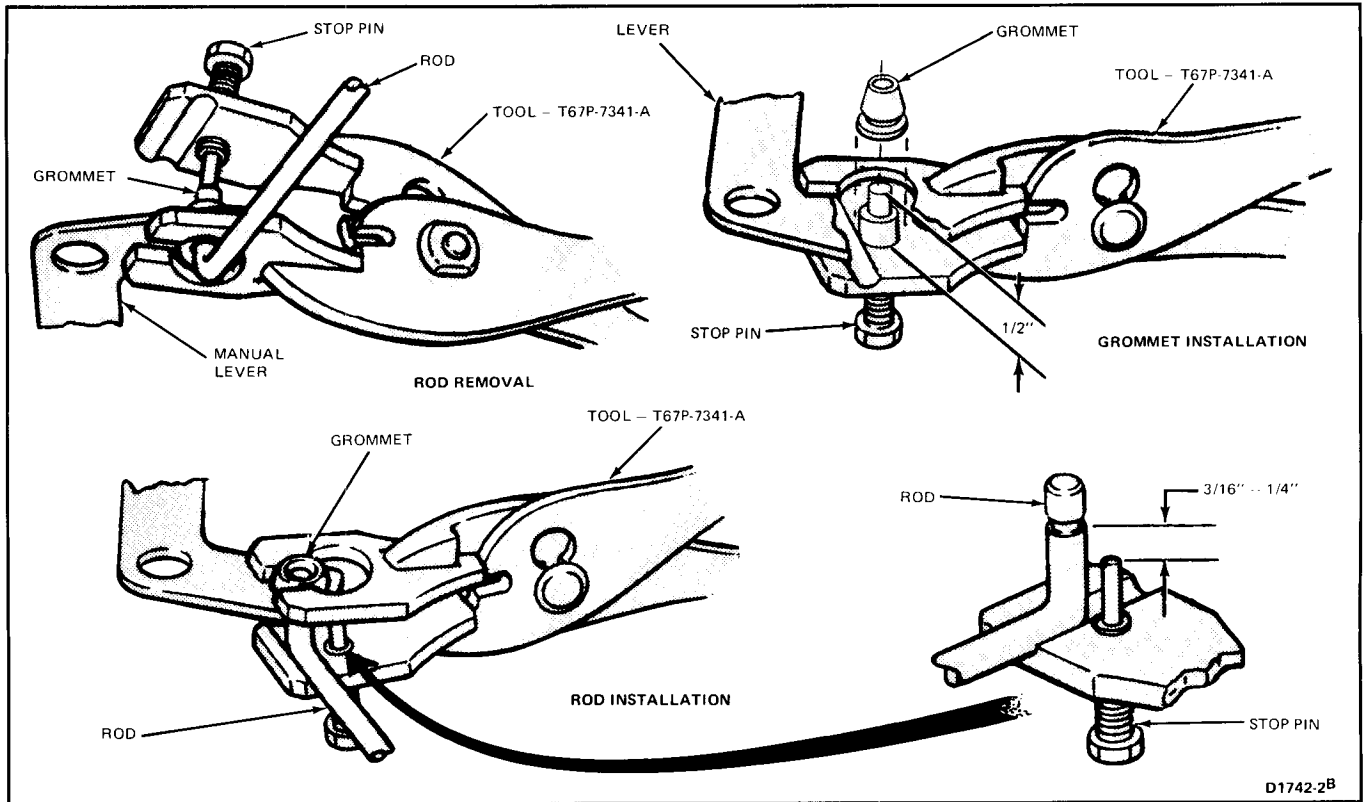

FIG. 2 Linkage Grommet—Removal and Installation
1. Place the lower jaw of Tool T67P-7341-A or equivalent between the lever and the rod (Fig. 2). Position the stop pin against the end of the rod (Fig. 2), and force the rod end out of the grommet. Remove the grommet from the lever by cutting off the large shoulder with a sharp knife.